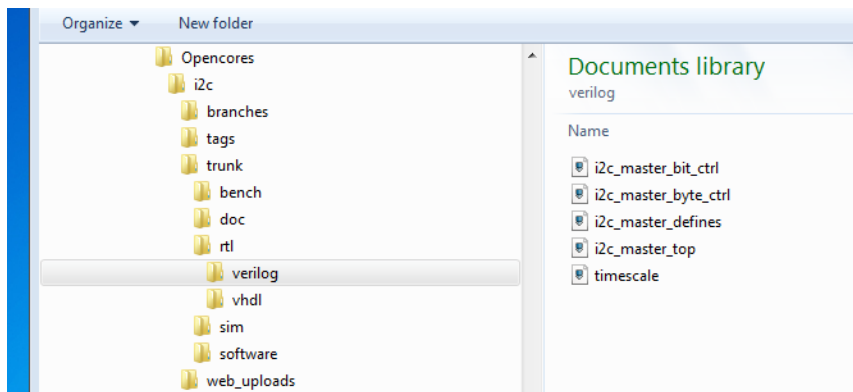

Figure 4-6 Verilog RTL design files
2. Navigate to the *i2c/trunk/rtl/verilog* directory of your I2C core, as seen in Figure 4-6, and select all the files (in Windows you can do this by holding down the Ctrl key as you click the files), then click Open.